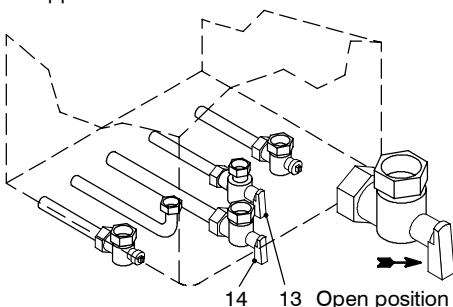

Fig. 7.1
- 1 Inspect the entire installation including the gas meter, test for tightness and purge, all as described in BS 6891; For Ireland (IE), refer to I.S.813.2002.
- 2 Open the gas cock 14 (Fig. 7.1) on the appliance and check the gas connector on the appliance for leaks.
- 2 Open the cold water inlet valve 13 (Fig. 7.1).